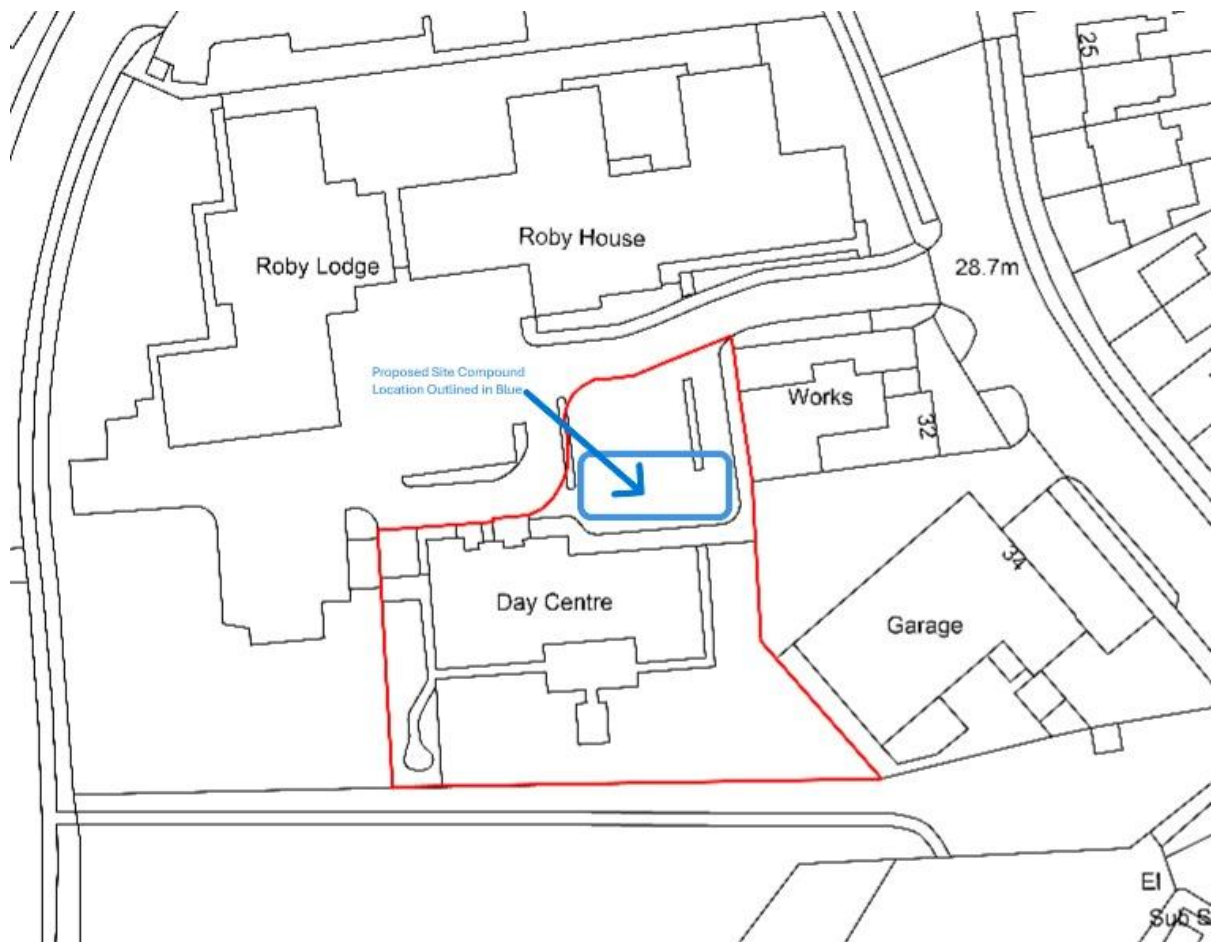

Fig. 1 Proposed Site Compound Location Outlined in Blue.
- 4.4 It is anticipated that the following site facilities will be present on site (see Fig. 1 below):